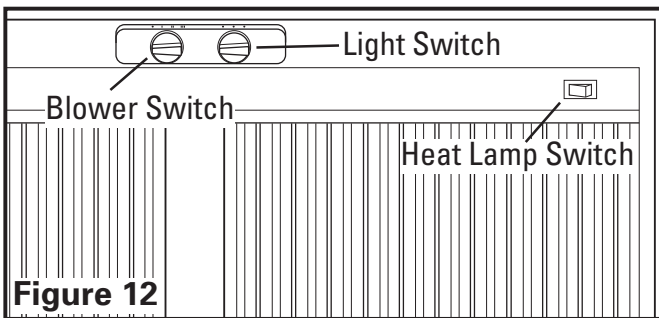

Figure 12
Your Range Hood is equipped with two rotary switches with one controlling the lighting and the other controlling the exhaust fan blower. The light switch has three positions, HIGH (\*), LOW (▲), and OFF (●). The fan switch has four positions, OFF (●), HIGH (I), MEDIUM (II), and LOW (III) (Figure 12).
**NOTE:** On installation where a One (1) speed blower is utilized, all blower control speeds operate at the same speed. On installation where a Two (2) speed blower is utilized, the Medium and High speeds operate at the same speed.
**Heat Lamp Controls:** For models equipped with heat lamps, two On/Off rocker switch are located on the front underside of the hood for independent control of the heat lamps (Figure 12).